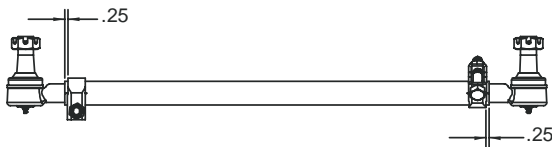

Figure 14 – Tie Rod Clamp Spacing
6. Orient the tie rod clamps as shown in Figure 14, 15 and 16.